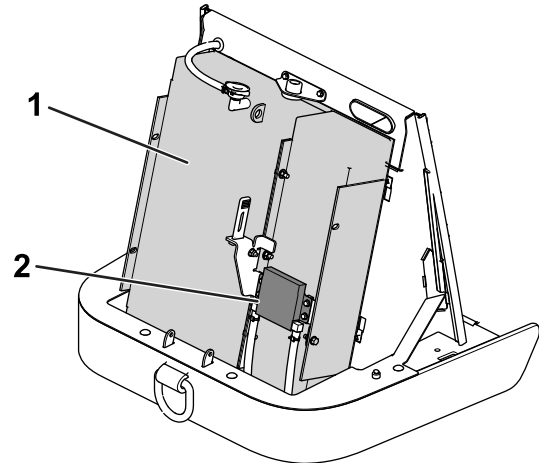

Figure 120
3. Clean the radiator/fuel cooler area thoroughly with compressed air (Figure 120).